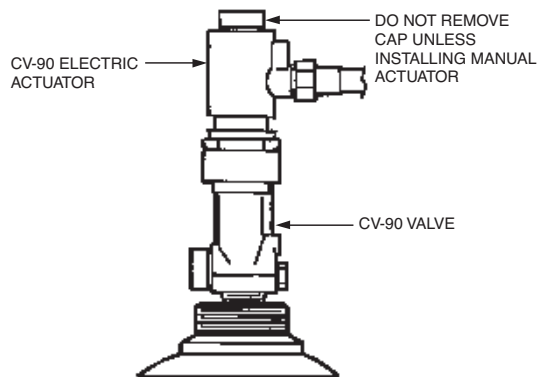

FIGURE 8
6. Thread the CV-90 electric actuator onto top threads of CV-90 CO₂/INERGEN valve. (Do not exceed 10 ft. lb. (13.6 Nm) torque.) See Figure 8.